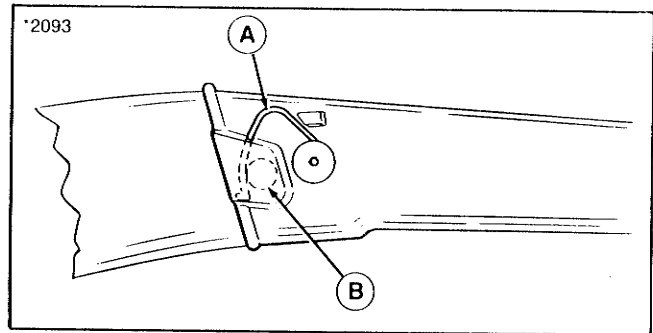

Figure 23.
31. Secure tube by moving wire form (A, figure 23) down over round cup (B) on adapter surface.